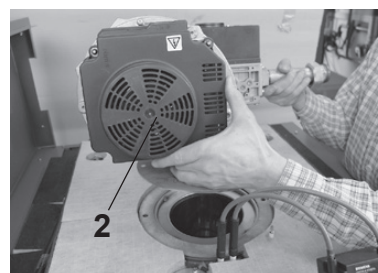

Fig. 25
8. Unscrew the fan with gas mixing device (2, Fig. 25).